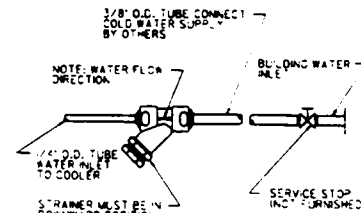
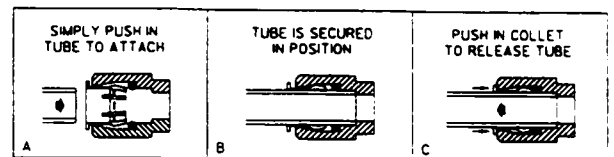

FIG. 1
FIG. 2
3. Connect cooler to building supply line with a shut-off valve and install a 3/8" water line between the valve and the cooler. Remove any burrs from outside of water line. Loosen nut on inlet side of "Y" strainer (see Fig.1) and insert water line to a positive stop - approx. 3/4". (see Fig.2) Finger tighten nut to lock tubing in place. (see Fig.1)
- Actuation of Quick Connect Water Fittings:** Cooler is provided with lead-free connectors which utilize an o-ring water seal. To remove tubing from the fitting, relieve water pressure, push in on the gray collar while pulling on the tubing.(see Fig.2) To insert tubing, push tube straight into fitting until it reaches a positive stop, approximately 3/4".